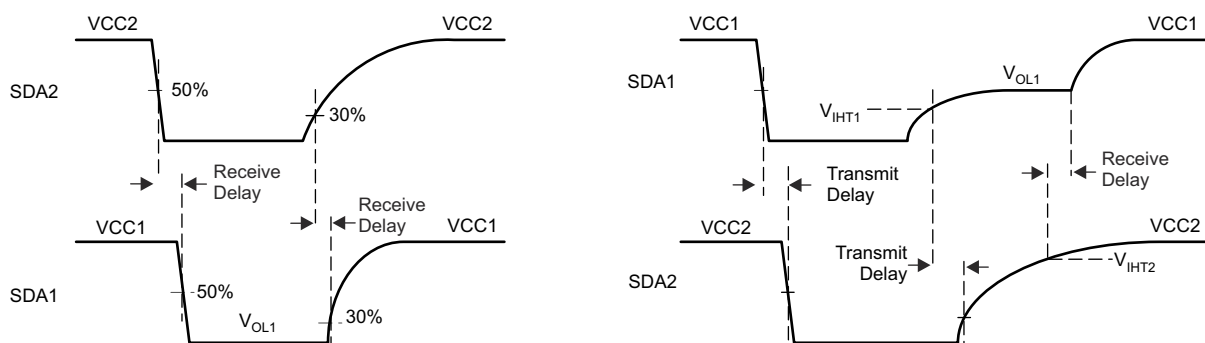

Figure 8-3. SDA Channel Timing in Receive and Transmit Directions
Figure 8-3 demonstrate the switching behavior of the I²C isolator, ISO164x-Q1, between a master node at SDA1 and a heavy loaded bus at SDA2.
8.4.1 Receive Direction (Left Diagram of Figure 8-3)
8.4.2 Transmit Direction (Right Diagram of Figure 8-3)